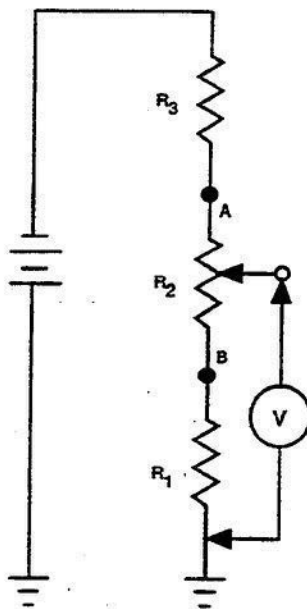

Figure 2-20. Potentiometer as a voltage divider.
**Potentiometers.** Another type of variable resistor is the potentiometer. A potentiometer is a control used to vary the amount of voltage applied to an electrical device or circuit. A typical circuit in which a potentiometer is used is shown in figure 2-20.